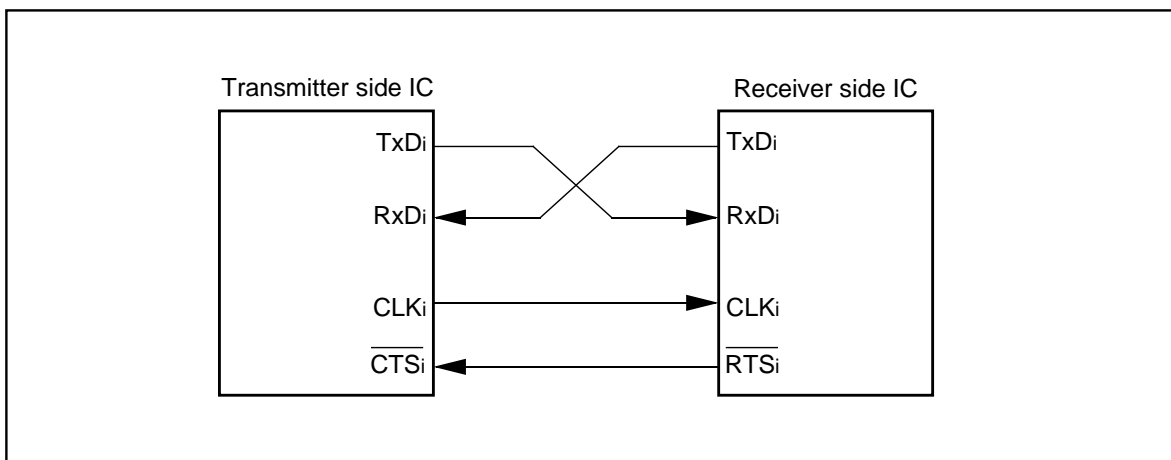

Figure 2.4.16. Example of wiring
- (1) With an external clock selected, and choosing the $\overline{\text{RTSi}}$ function, the output level of the $\overline{\text{RTSi}}$ pin goes to "L" when the data-receivable status becomes ready, which informs the transmission side that the reception has become ready. The output level of the $\overline{\text{RTSi}}$ pin goes to "H" when reception starts. So if the $\overline{\text{RTSi}}$ pin is connected to the $\overline{\text{CTS}_i}$ pin on the transmission side, the circuit can transmission and reception data with consistent timing. With the internal clock, the $\overline{\text{RTS}}$ function has no effect. Figure 2.4.16 shows an example of wiring.